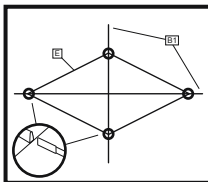

FIG1
2. Push the poles<B1> completely into the channels.(FIG1)